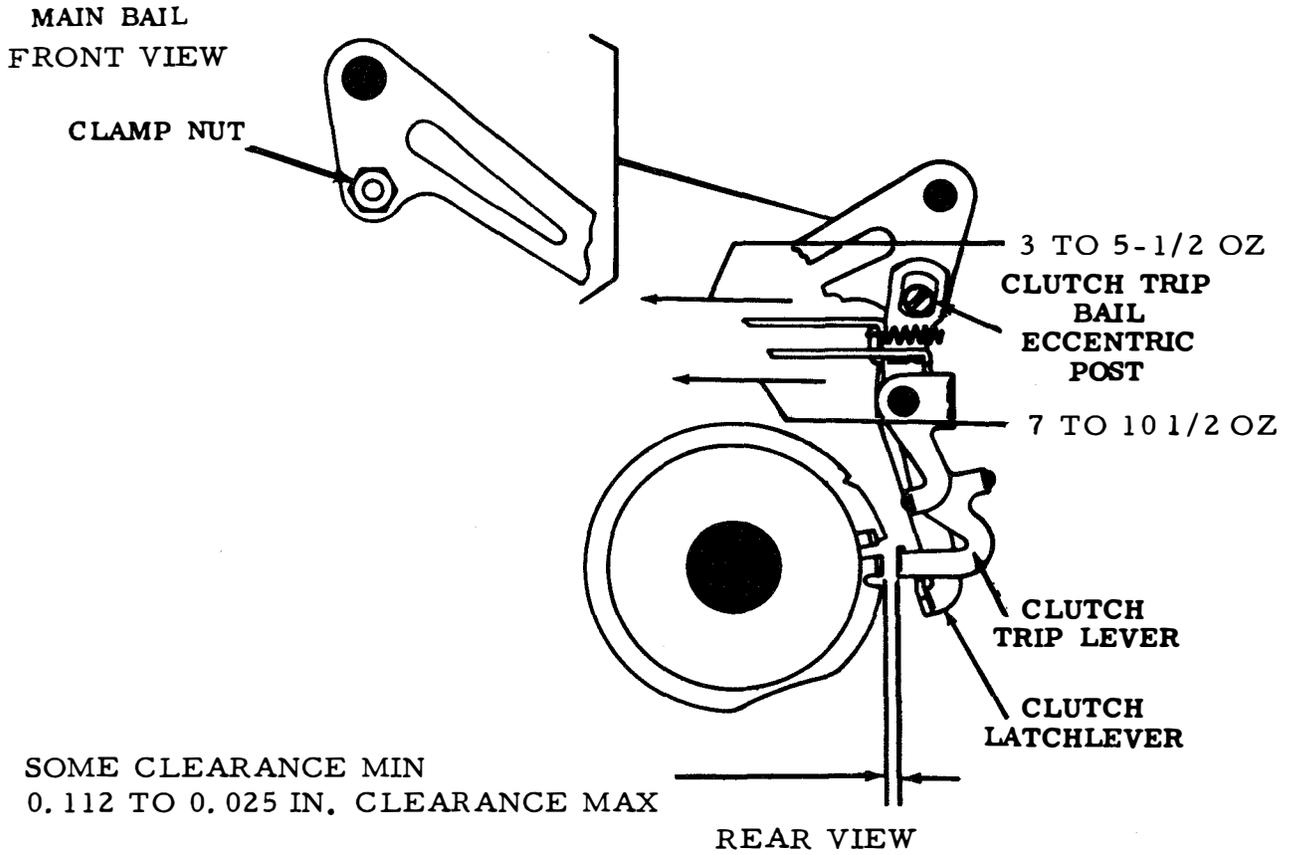

Figure 6-4. Clutch Trip Lever, Clutch Trip Lever Spring, and Clutch Latchlever Spring
(a) Refer to figure 6-4.
| <p>figure 6-4.</p> <p>clutch.</p> <p>spring scale hook to clutch trip lever.</p> <p>Force required to start clutch trip lever moving should be between 7 and 10-1/2 ounces.</p> <p>If scale reading exceeds specified limits, install new spring.</p> | <p>(a) Refer to</p> <p>(b) Engage</p> <p>(c) Attach</p> <p>(d) Force</p> <p>(e) If scale</p> | <p>(6) Clutch Latch-Lever Spring.</p> <p>figure 6-4.</p> <p>and rotate shaft until latchlever is on low part of disc.</p> <p>spring scale hook to clutch latchlever.</p> <p>Force required to start clutch latch-lever moving should be between 3 and 5-1/2 ounces.</p> | <p>(a) Refer to</p> <p>(b) Trip clutch</p> <p>(c) Attach</p> <p>(d) Force</p> |